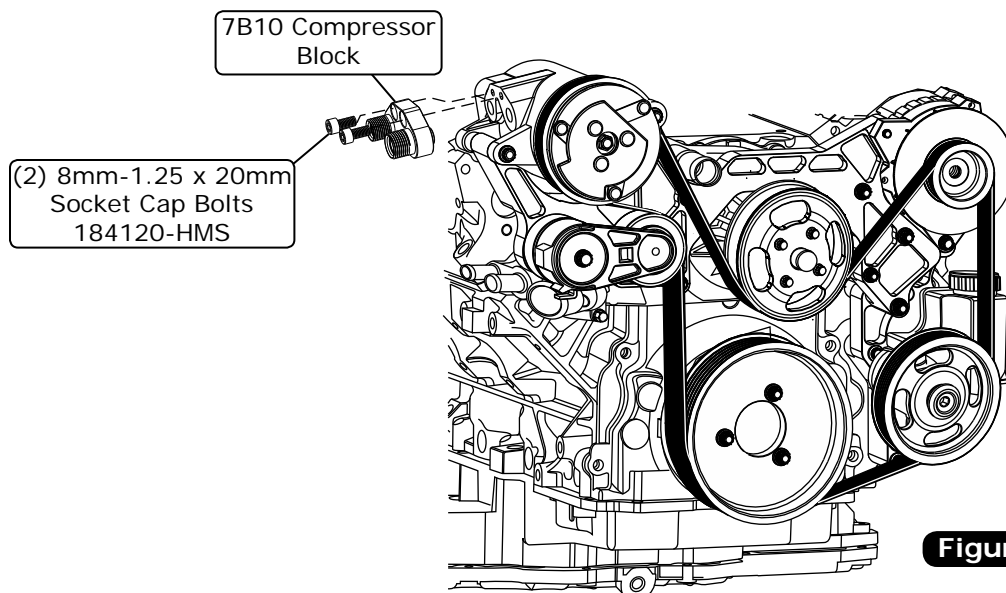

Figure 13
1. Install the compressor block onto the compressor using (2) 8mm-1.25 x 20mm socket cap bolts as shown in Figure 13, below. Torque to 18 lb ft. **NOTE: Keep the ports sealed with caps until the A/C circuit has been completed.**